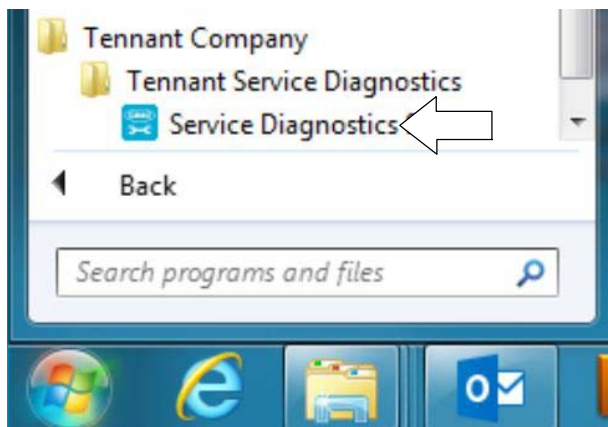

Fig. 27
**For Tennant service personnel equipped with ServiceLink computers,** the software is pre-installed on your computer as shown below. The software application is titled “**Service Diagnostics**” (Figure 27).
7. After the service application software is installed on your computer, refer to figure 27 to access the program.
5. After the application software is installed on your computer, refer to figure 27 to access the program.